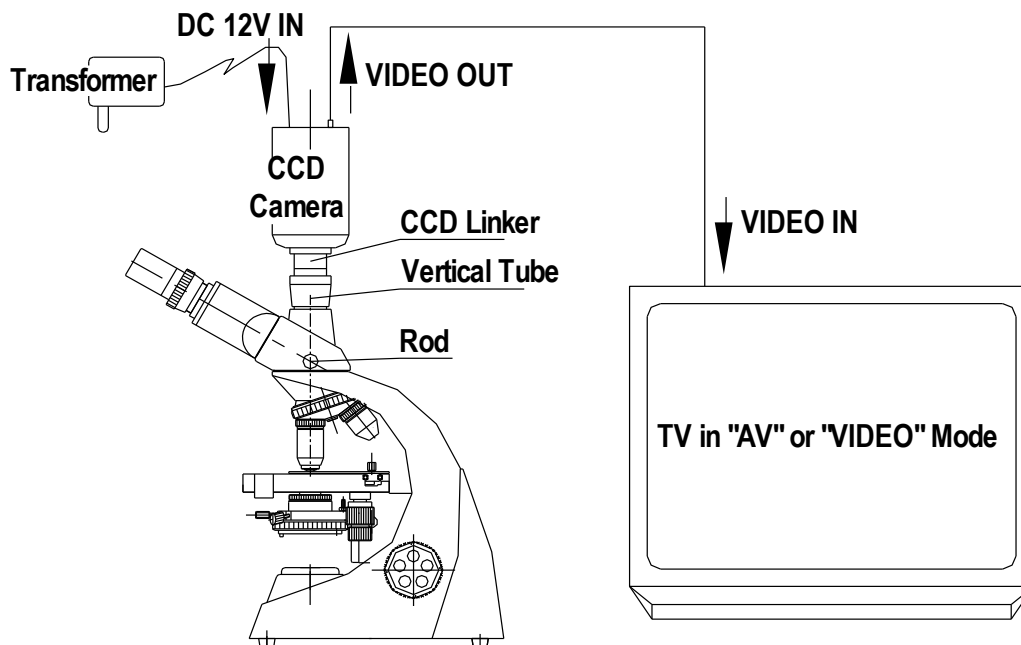

Fig 4. Microscope with CCD Camera
1. See Fig 4., and connect the CCD camera with the microscope as following steps: